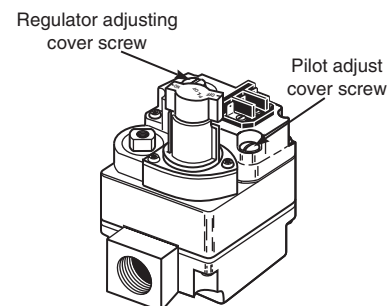

Figure 6. Pressure regulator adjustment
2. Remove “Reg. Adj.” cover screw (see fig. 6).
4. Depress gas control knob slightly and turn clockwise to **OFF** (see fig. 6). If knob is in **ON**, turn clockwise to **PILOT**, then depress knob slightly and turn clockwise to **OFF**.
9. Depress control knob all the way and hold in. **Immediately** light the pilot with a match. Continue to hold the control knob down for about one (1) minute after the pilot is lit. Release knob and it will pop back up. Pilot should remain lit. If it goes out, repeat steps 4, 5, 8, and 9.